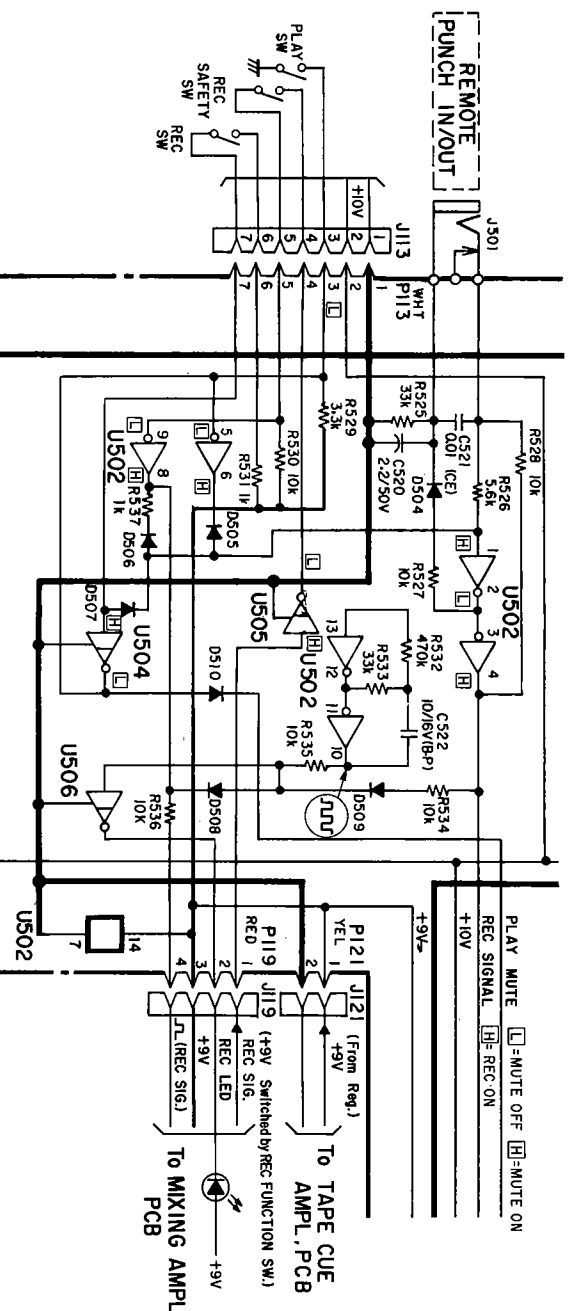
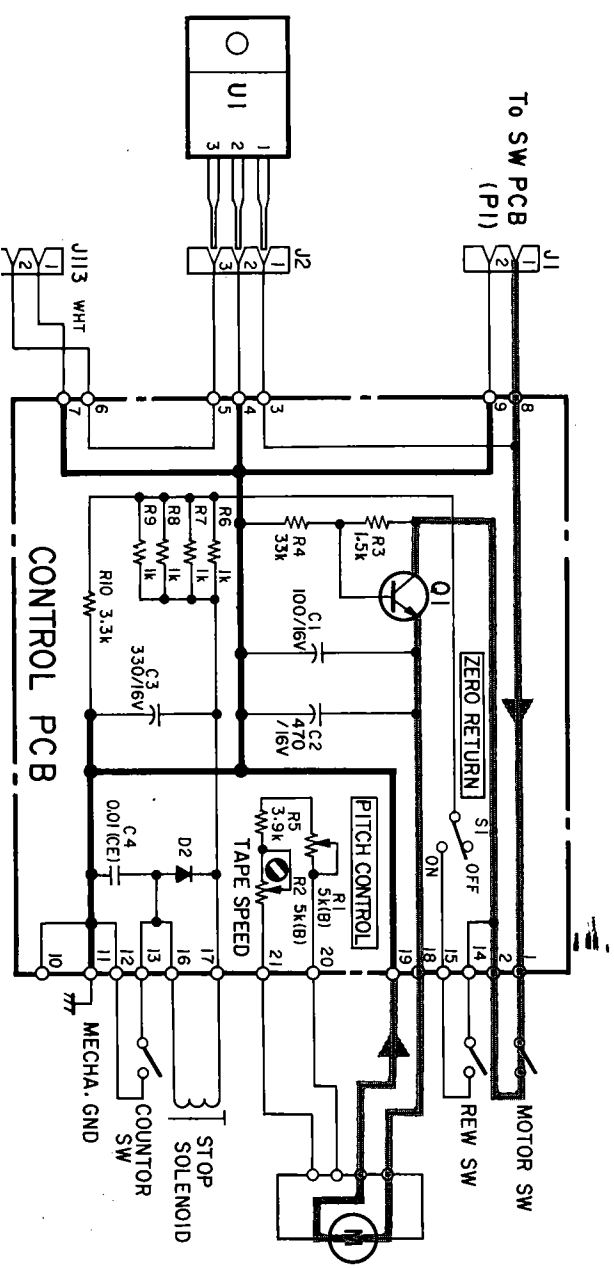

Fig. 3-2 Control logic circuit
Fig. 3-3 Motor control circuit
Fig. 3-2 shows the control logic circuit and Fig. 3-3 the motor control circuit.
When the PLAY key is pushed, the PLAY SW in Fig. 3-2 is closed and pin 3 of P113 is grounded. As a result, the PLAY JTE signal line (D510 cathode side) goes "L", and the "L" level signal is used as a signal to release the PLAY MUTE operation.
With the PLAY key pushed, the MOTOR SW shown in Fig. 3-3 is closed, and a current flows from pin (1) of J1 into the motor passing through MOTOR SW, and Q1.
When the REC key is pushed, the REC SW shown in Fig. 3-2 is closed and pins 6 and 7 of P113 are connected. As a result, the cathode side of D507 goes "H", and the output side of U504 goes "L".
With the REC key pushed, the MOTOR SW shown in Fig. 3-3 is closed and the motor rotates in the same way as in Play mode. Since pin 8 of U502 is "H" and pin 4 of U502 is "H", pin 4 of U502 develops "H" level signal and the "H" level signal is fed to the mixer amplifiers as the Record-ON signal.
1. When the PAUSE key is pushed under record condition, the PLAY SW shown in Fig. 3-2 is opened. However, the voltage level on pin 3 of P113 is not changed as the output side of U504 is maintained at "L" level.
2. On the other hand, when the PAUSE key is pushed during the Punch-in operation, the PLAY SW shown in Fig. 3-2 is also opened and pin 5 of U502 changes to "H" and pin 6 to "L". Then, pin 1 of U502 changes to "L", pins 2, 3 to "H", and pin 4 to "L", thus the recording condition is disabled. That is, a condition the same as the PLAY PAUSE will be created.